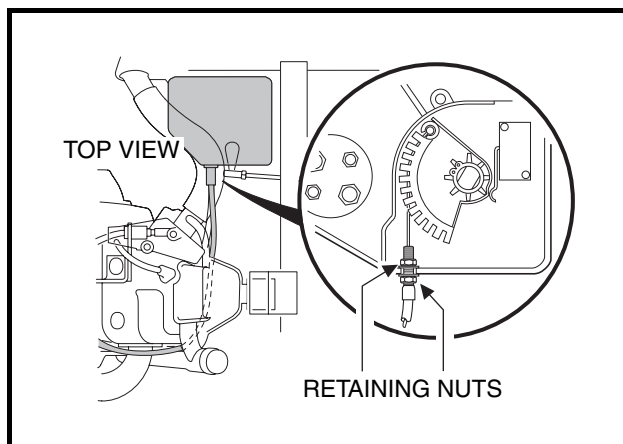

Figure 19-47 Connect Cable to Cam and Secure with Retaining Nuts
24. Connect accelerator cable to actuator cam in the electrical box. Position the accelerator cable in the mounting slot in the wall of the electrical box and tighten mounting nuts to 18 in-lb (2.0 N·m) (**Figure 19-47, Page 19-17**). Install electrical box cover and tighten mounting screw.